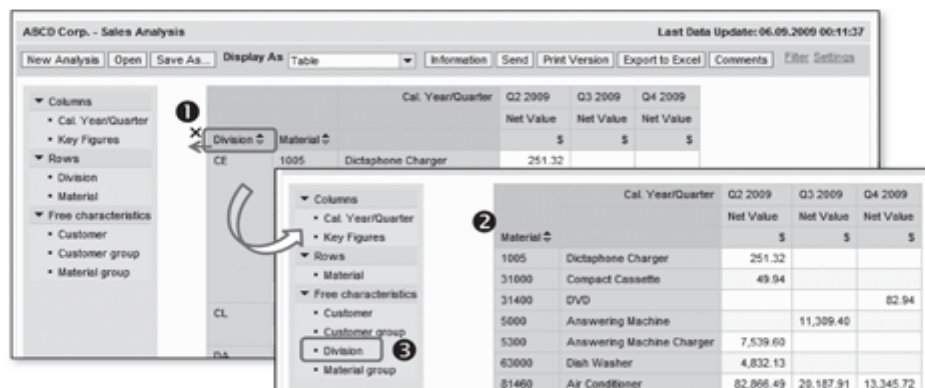

Figure 10.54 Navigation: Remove Drilldown
- Remove drilldown: To remove a characteristic from the drilldown, you have to drag the characteristic header out of the layout area (❶ of Figure 10.54). The analysis is refreshed without that characteristic (❷), and the removed characteristic is added to the free characteristics area in the navigation pane (❸).